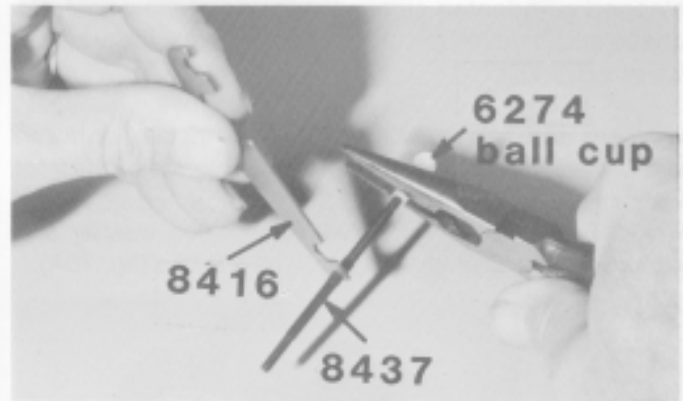

Fig. 83
□ **Figs. 83 & 83A** In bag 2 you will find two #8437 turnbuckles and four #6274 plastic ball end caps. Screw two plastic ball end caps onto each of the turnbuckles. Each of the turnbuckles has both left and right handed threads, so each plastic ball end cap will thread on in opposite directions. Match the length of the caps and turnbuckles to the actual scale drawing below.